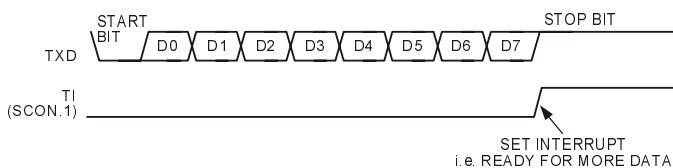

Figure 54. UART Serial Port Transmission, Mode 0
Transmission is initiated by writing to SBUF. The “write to SBUF” signal also loads a 1 (stop bit) into the ninth bit position of the transmit shift register. The data is output bit by bit until the stop bit appears on TXD and the transmit interrupt flag (TI) is automatically set as shown in Figure 54.